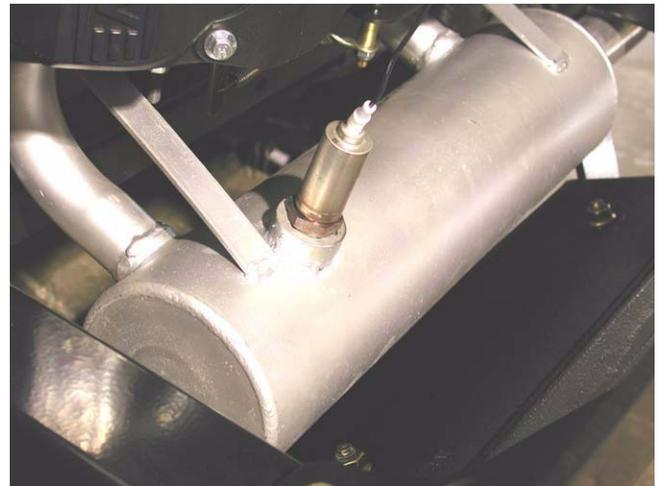

Figure 9.3
9.3. The TANK exhaust systems all feature a new aluminized finish. This finish resists corrosion better than the heat paint that is more commonly used. It also dissipates heat more effectively, producing noticeable improvements on chassis dynamometers. See Figure 9.3.